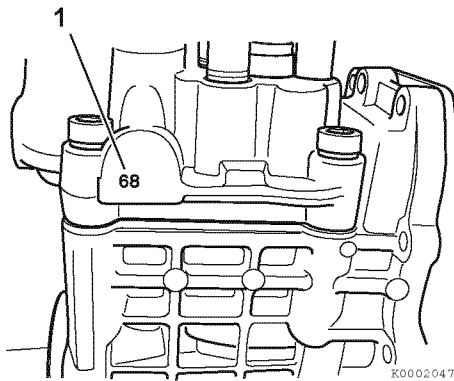

Figure 7-17
23. Remove the fuel injection pump (Figure 7-16, (1)). For purposes of future injection timing purposes, record the fuel injection pump timing index number located on the boss on the engine side (back) of the of the fuel injection pump (Figure 7-17, (1)).